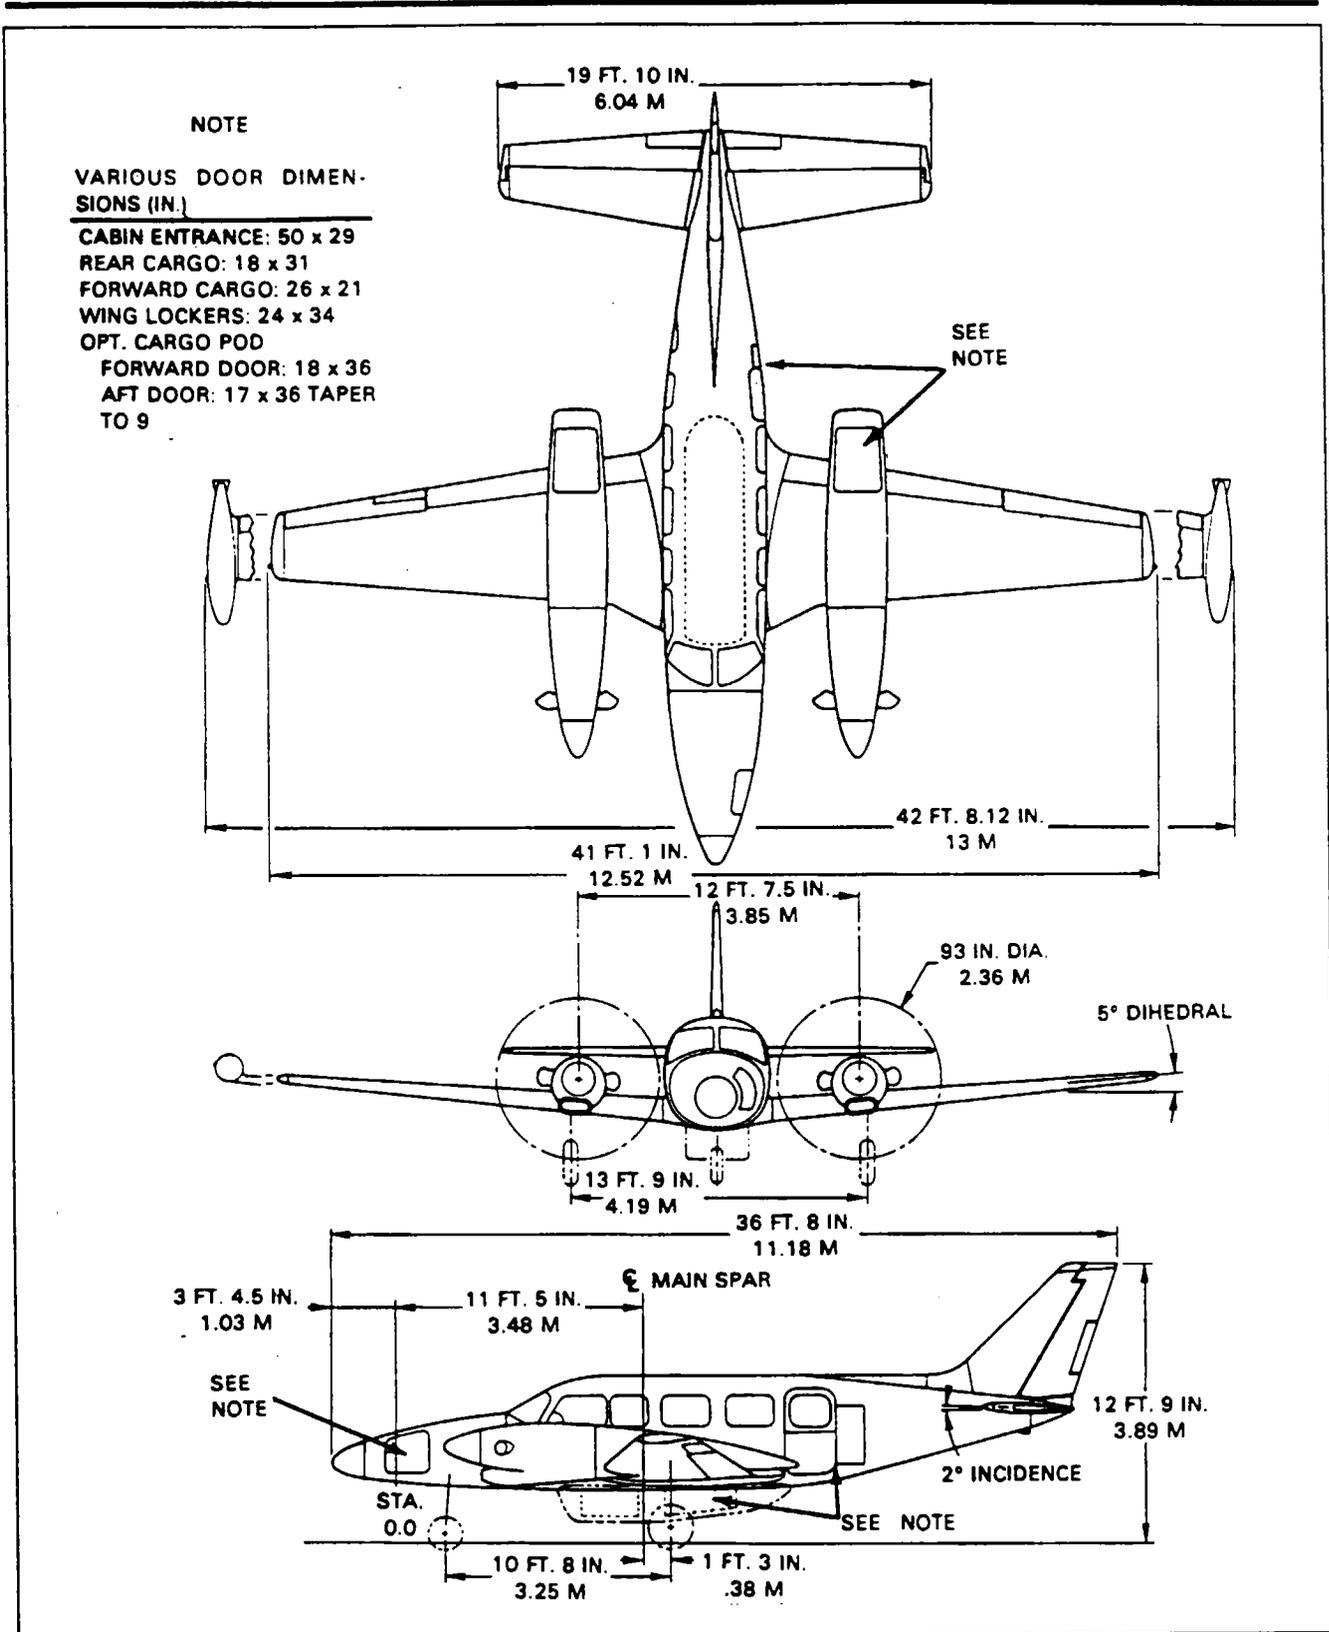

Figure 6-1. Dimensions
**DIMENSIONS AND AREAS. (REFER TO FIGURE 6-1.)**
The principal airplane dimensions are shown in Figure 6-1 and listed in Chart 601. The serial number plate for the airplane is located near the tail skid. The MAA plate is located under the lower front corner of the entrance door. The engine data plates are located on the left rear side of the engines on the accessory case.